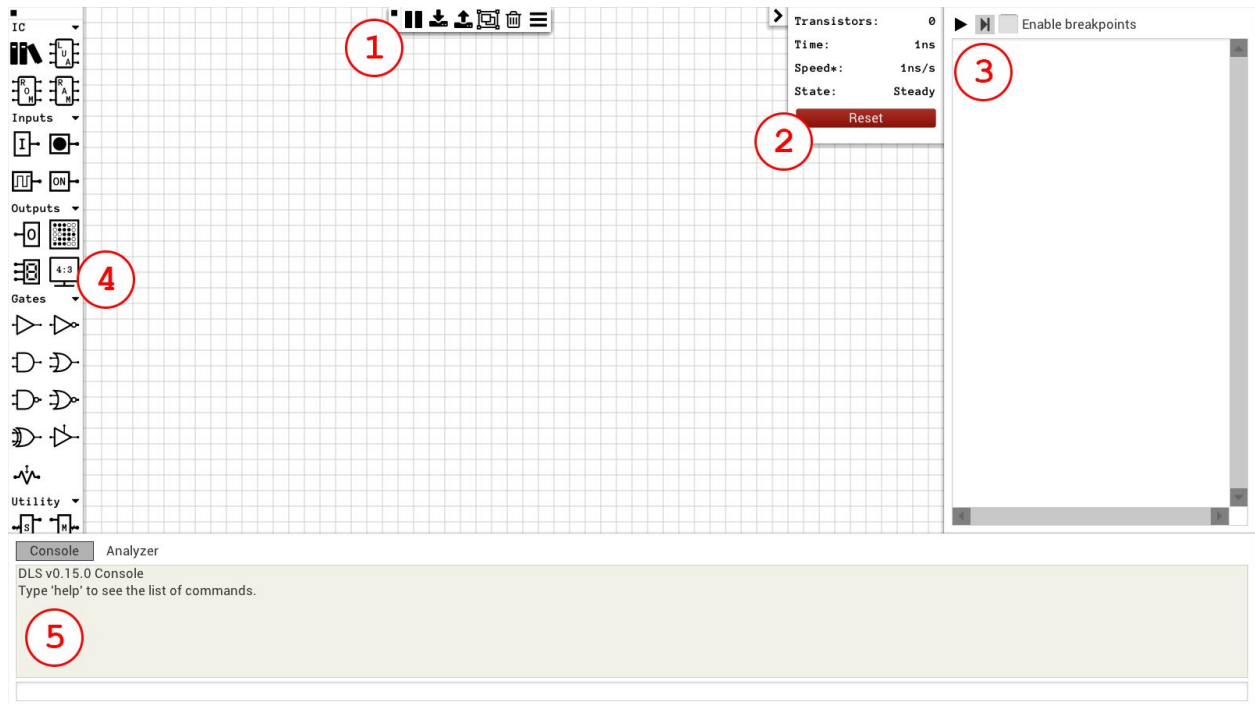

Fig. 1: Main user interface
Figure 1 shows DLS' main user interface (UI), with the testbench editor and the console opened.